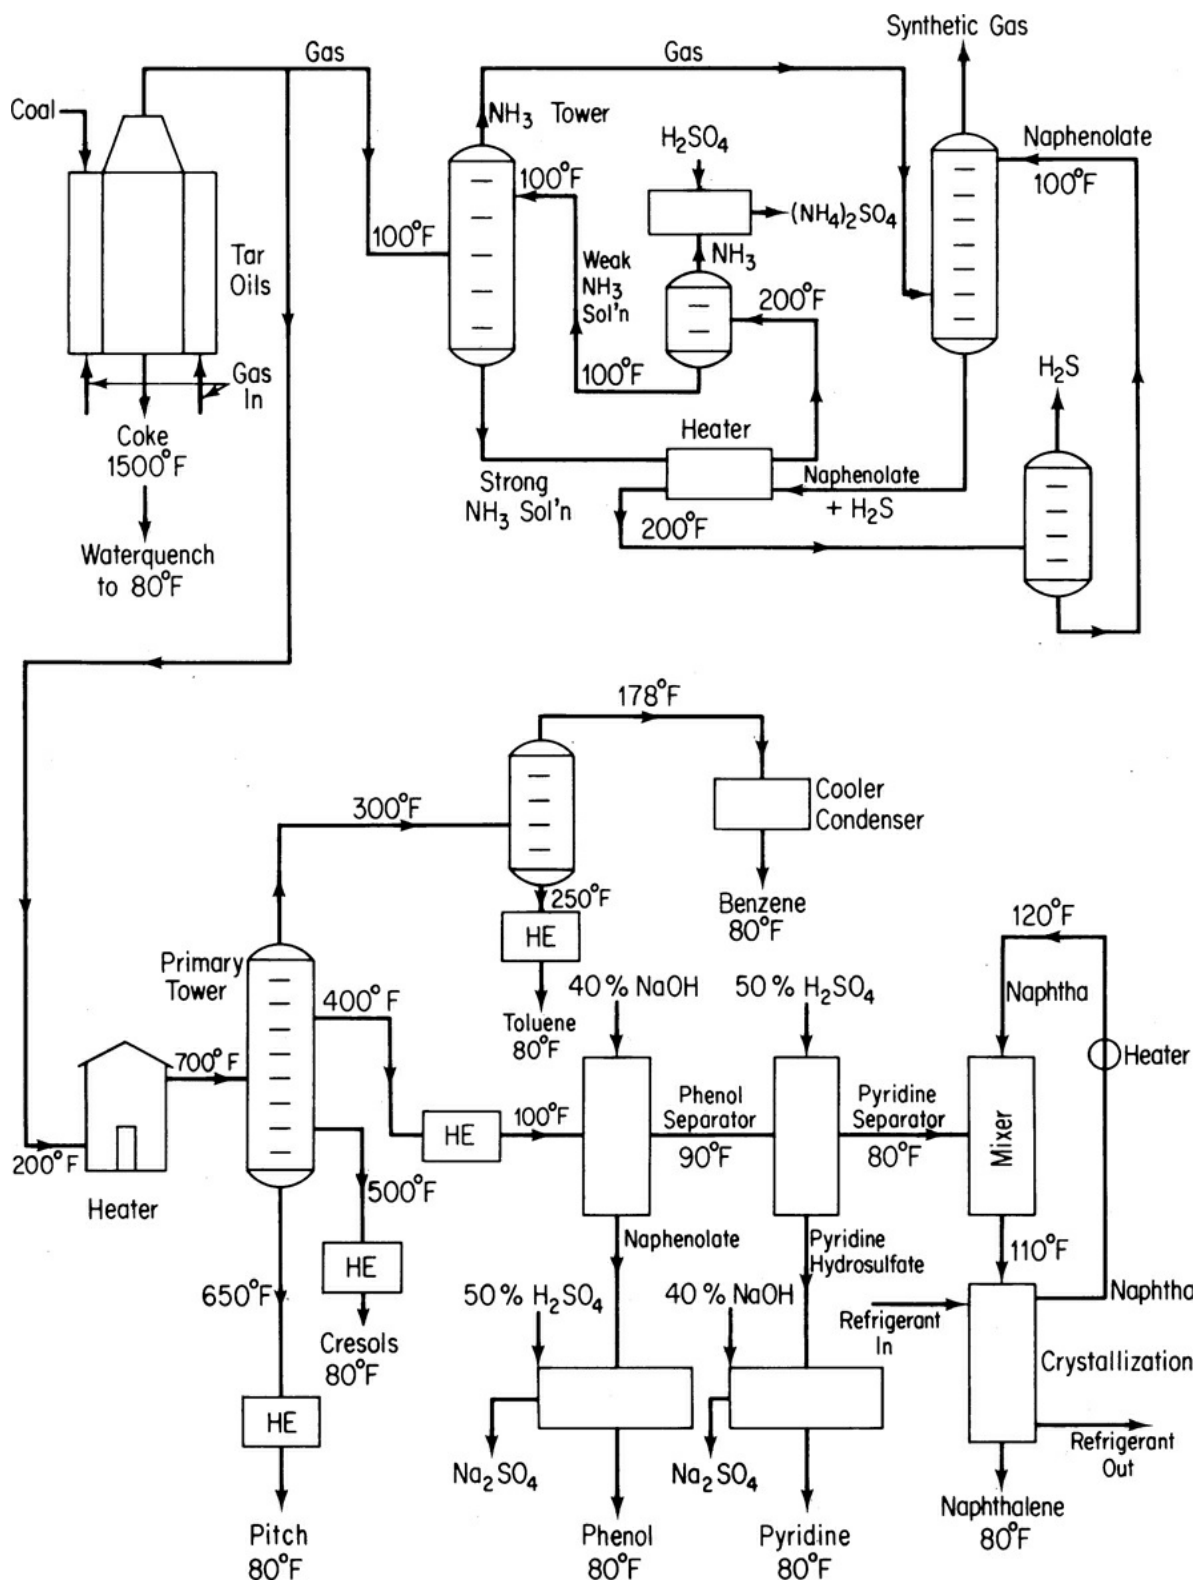

Figure P14.11
14.11 When coal is distilled by heating without contact with air, a wide variety of solid, liquid, and gaseous products of commercial importance are produced, as well as some significant air pollutants. The nature and amounts of the products produced depend on the temperature used in the decomposition and the type of coal. At low temperatures (400°C to 750°C) the yield of synthetic gas is small relative to the yield of liquid products, whereas at high temperatures (above 900°C) the reverse is true. For the typical process flowsheet, shown in Figure P14.11: